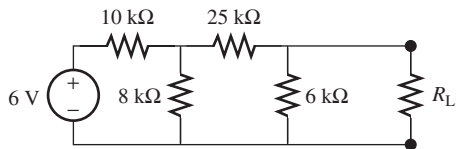

FIGURE P3.54 Circuit for Problem 3.54.
3.54 (A) Find the Thévenin equivalent resistance and voltage as seen from terminals a-b for the circuit in Figure P3.54.
- 3.82** (A) Use PSpice to find the Thévenin equivalent resistance and voltage as seen by R_L for the circuit shown in Figure P3.54.